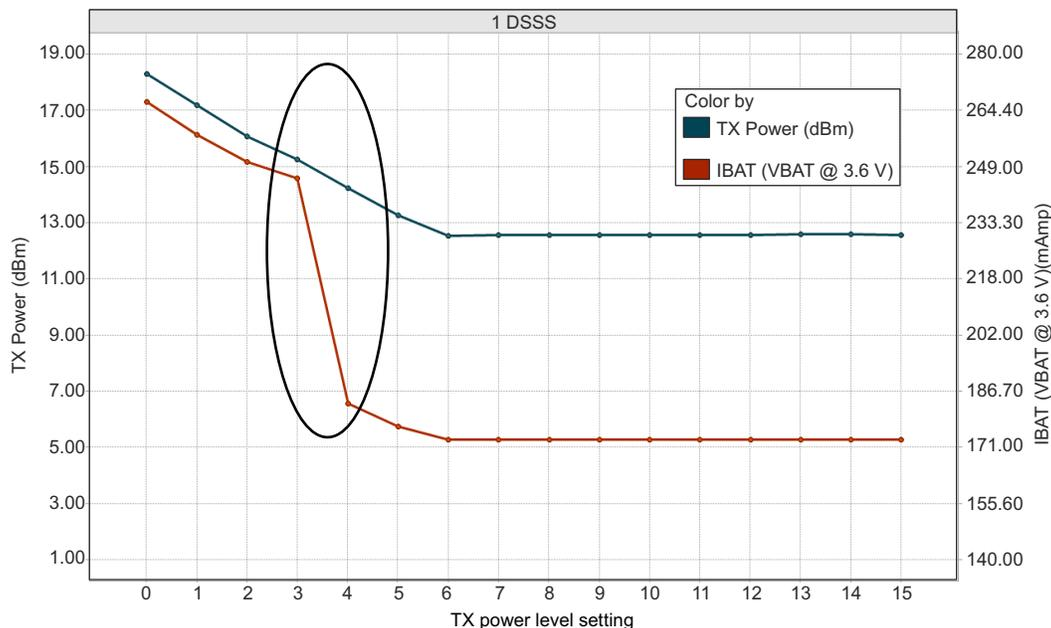
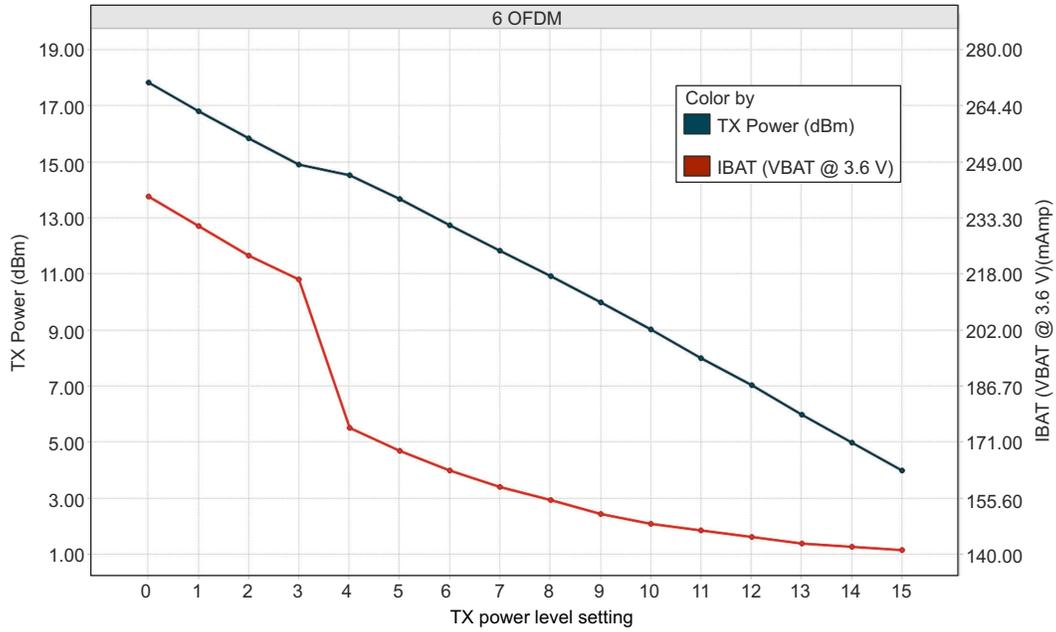
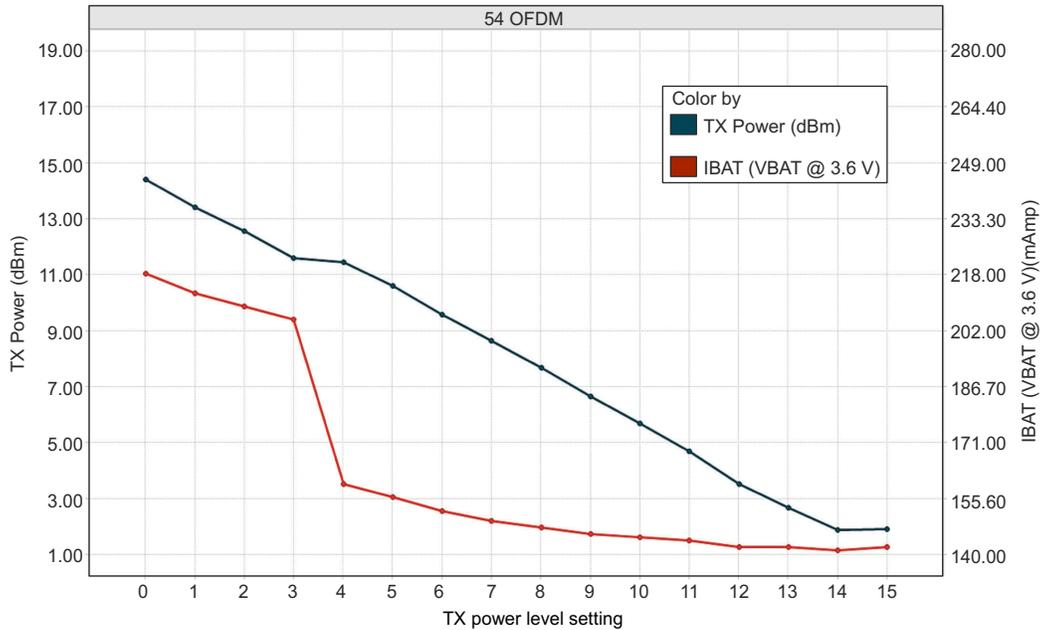

图 8-1. TX Power and IBAT vs TX Power Level Settings (1 DSSS)
图 8-2. TX Power and IBAT vs TX Power Level Settings (6 OFDM)
图 8-3. TX Power and IBAT vs TX Power Level Settings (54 OFDM)
(1) TX power level = 0 implies maximum power (see 图 8-2, 图 8-2, and 图 8-3). TX power level = 4 implies output power backed off approximately 4 dB.
(2) LPDS current does not include the external serial flash. The CC3235MODx and CC3235MODAx can be configured to retain 0 KB, 64 KB, 128 KB, 192 KB, or 256 KB of SRAM in LPDS. Each 64-KB block of MCU retained SRAM increases LPDS current by 4 μA.
(3) DTIM = 1
(4) The complete calibration can take up to 17 mJ of energy from the battery over a period of 24 ms. Calibration is performed sparingly, typically when coming out of HIBERNATE and only if temperature has changed by more than 20°C. The calibration event can be controlled by a configuration file in the serial flash.
(5) Typical numbers assume a VSWR of 1.5:1.
图 8-1, 图 8-2, and 图 8-3 show TX power and IBAT versus TX power level settings for the CC3235MODS module at modulations of 1 DSSS, 6 OFDM, and 54 OFDM, respectively. For the CC3235MODSF module, the IBAT current has an increase of approximately 10 mA to 15 mA depending on the transmitted rate. The TX power level remains the same.5
In 图 8-1, the area enclosed in the circle represents a significant reduction in current during transition from TX power level 3 to level 4. In the case of lower range requirements (14-dBm output power), TI recommends using TX power level 4 to reduce the current.